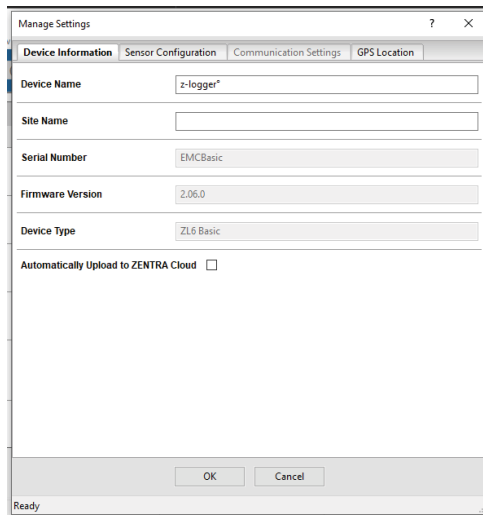

Figure 3 Device Information tab
5. Navigate to the Device Information tab (Figure 3).